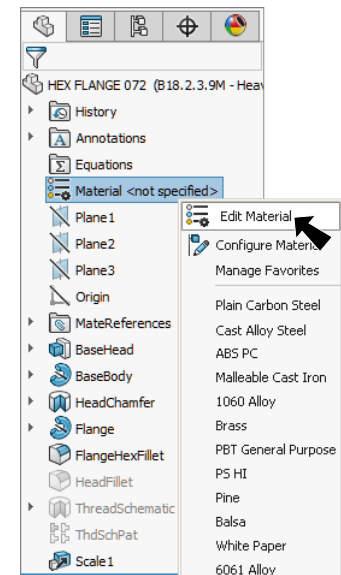

Fig. 11
Step 1. **Right click Material** in the Feature Manager and click **Edit Material**, Fig. 11.